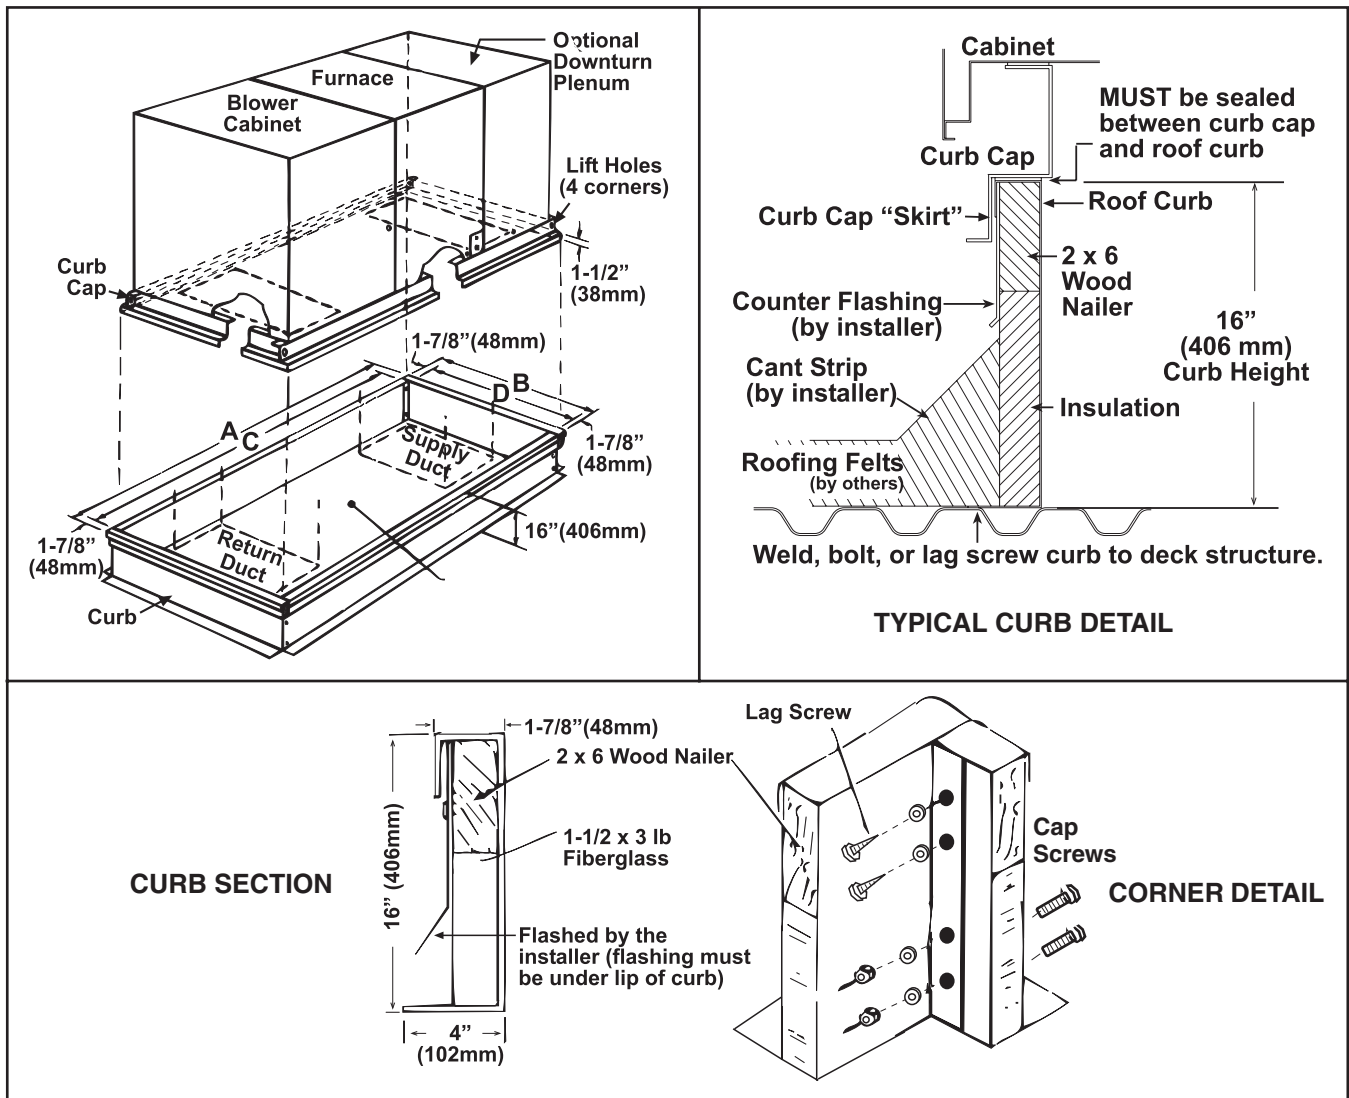

Figure 3. Optional Curb Assembly—Model RPBL (Refer to Table 8)
- The system can have a variety of configurations that affect installation. Option CJ1 is for a standard RPBL unit. Option CJ2 is for a unit with a factory-installed downturn plenum (option AQ5 or AQ8). Option CJ4 is for a unit with a field-installed cooling coil cabinet (option AU2 or AU3). Option CJ5 is for a unit with a field-installed cooling coil cabinet with a downturn plenum (option AU11, AU12, AU13, or AU14). Figure 3 shows a unit with an option AQ5 or AQ8 downturn plenum. If the system does not have a downturn plenum, the discharge is horizontal.
1. Position and connect cross rails and side rails as shown in Figure 3.